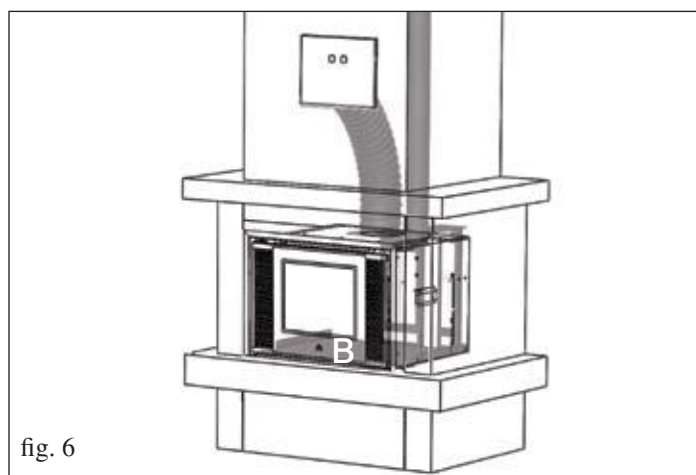

fig. 6
- Position INPELLET 49 sliding it along the plate (**B**) until it reaches end-of-travel (fig. 6).